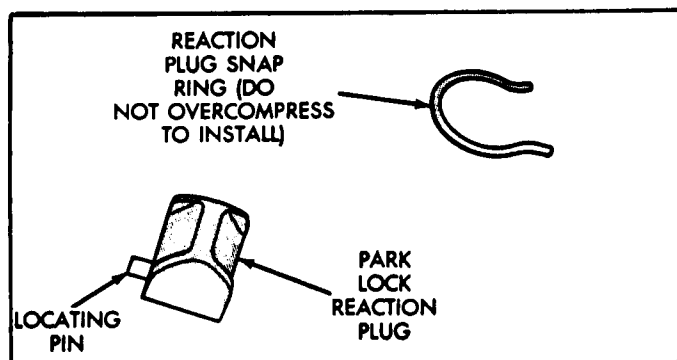

Figure 22
35. Install park lock reaction plug into overdrive housing (See Figure 22). Be pin is seated in the hole in housing before installing snap ring.